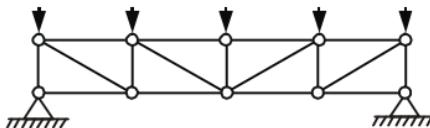

Fig. 1.7.2. (Externally) indeterminate truss.
2. For the truss as shown in the Fig. 1.7.2, we have